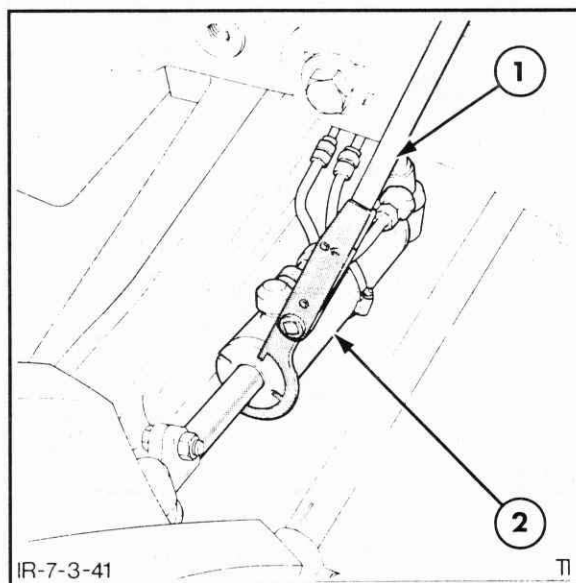

Figure 7-104
4. To aid disassembly of the cylinder after removal from unit, use "C" spanner special tool no. FT3171 and a suitable wrench to release the gland from the cylinder, Figure 7-104.